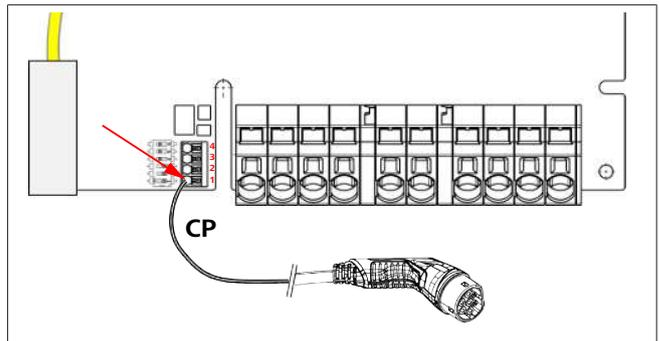

Fig. 7
- ▶ Connect the black/white control cable (CP) to the terminal (Fig. 7, contact 1).